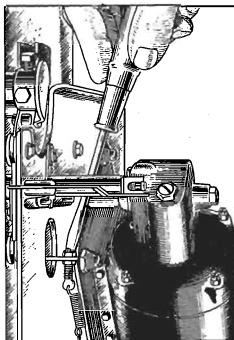

Figure 7—Adjusting tone arm cable tension screw
- (e) Incorrect adjustment of cable tension screw. The cable tension screw shown in Figure 7 should be so adjusted that the needle will lower smoothly onto the record without dropping. When this adjustment is obtained, the cable will be slightly loose when the needle is lowered onto a record. Loosen the lock nuts, turn the screw to the right or left as required and retighten the lock nut. Check the adjustment to make sure that the needle clears the record on the return of the tone arm. The needle should rise $\frac{1}{16}$ " from the record before any horizontal motion takes place.
(5) NEEDLE FAILS TO CLEAR RECORD AFTER PLAYING